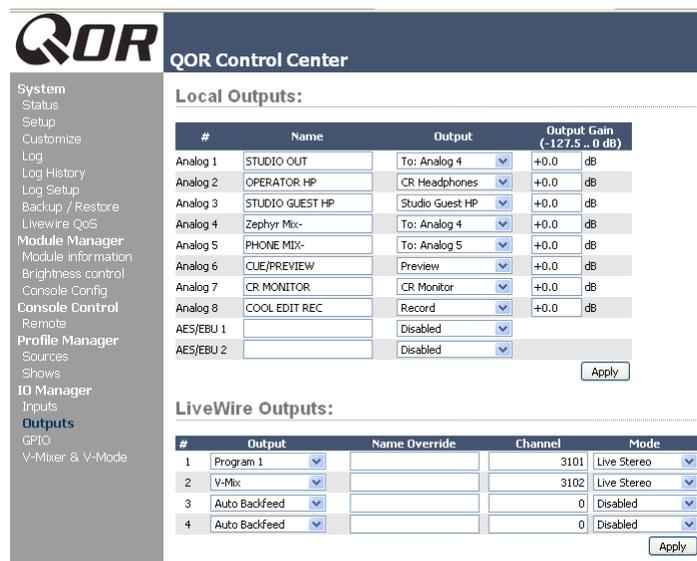

Figure 2-6: Assigning an Output from the list box
2. Use your Web browser to connect to the Outputs screen (Figure 2-6) and set up the mix-minus for Output #5.
3. Just to the right of each **Local Output** name box, you'll see a drop-down selector. Click on the drop-down for output #3 and choose to **Analog 5** as shown in Figure 2-6. By simply choosing to **Analog 5**, Radius knows to deliver a backfeed that is a mix-minus of Analog Input 5. (The output chosen to deliver this backfeed is arbitrary - we chose Output 5 just for this example.)